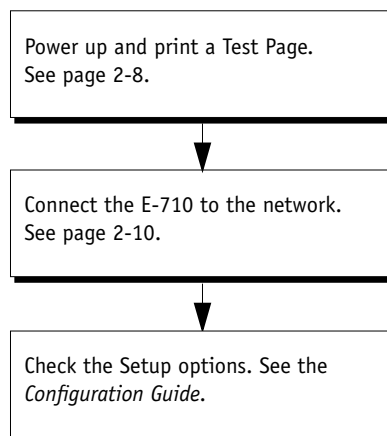

FIGURE 4-15 E-710 connection verification steps
8. Before you leave the customer site, verify E-710 operation (see Figure 4-15 on page 4-22).